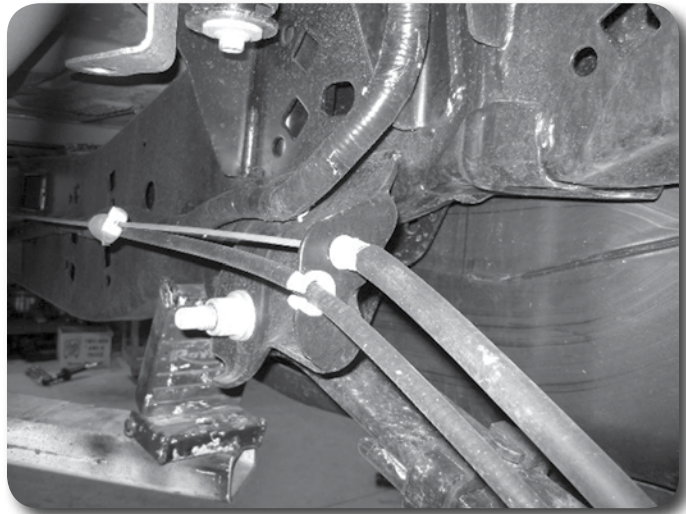

Figure 39
77. Compress the retaining tabs and remove the driver's side cable from the spring hanger **Figure 39**. It will be relocated and reconnected later.